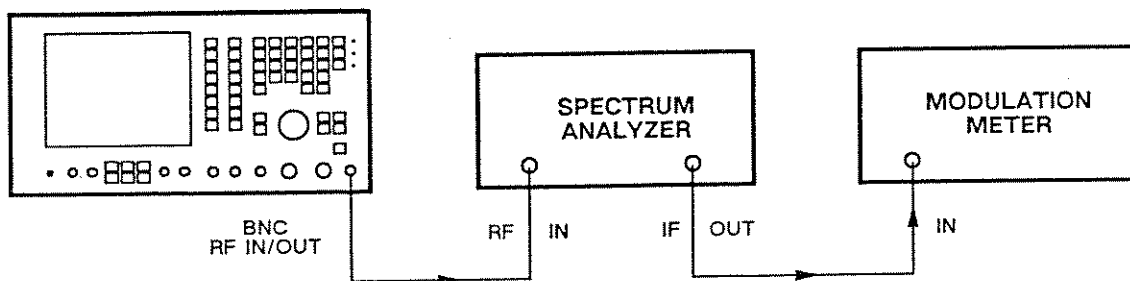

Fig. 6-27 Test equipment connections for RF generator FM on CW
- (1) Connect the modulation meter to the spectrum analyzer output and the spectrum analyzer input to the RF IN/OUT BNC socket. See Fig. 6-27.